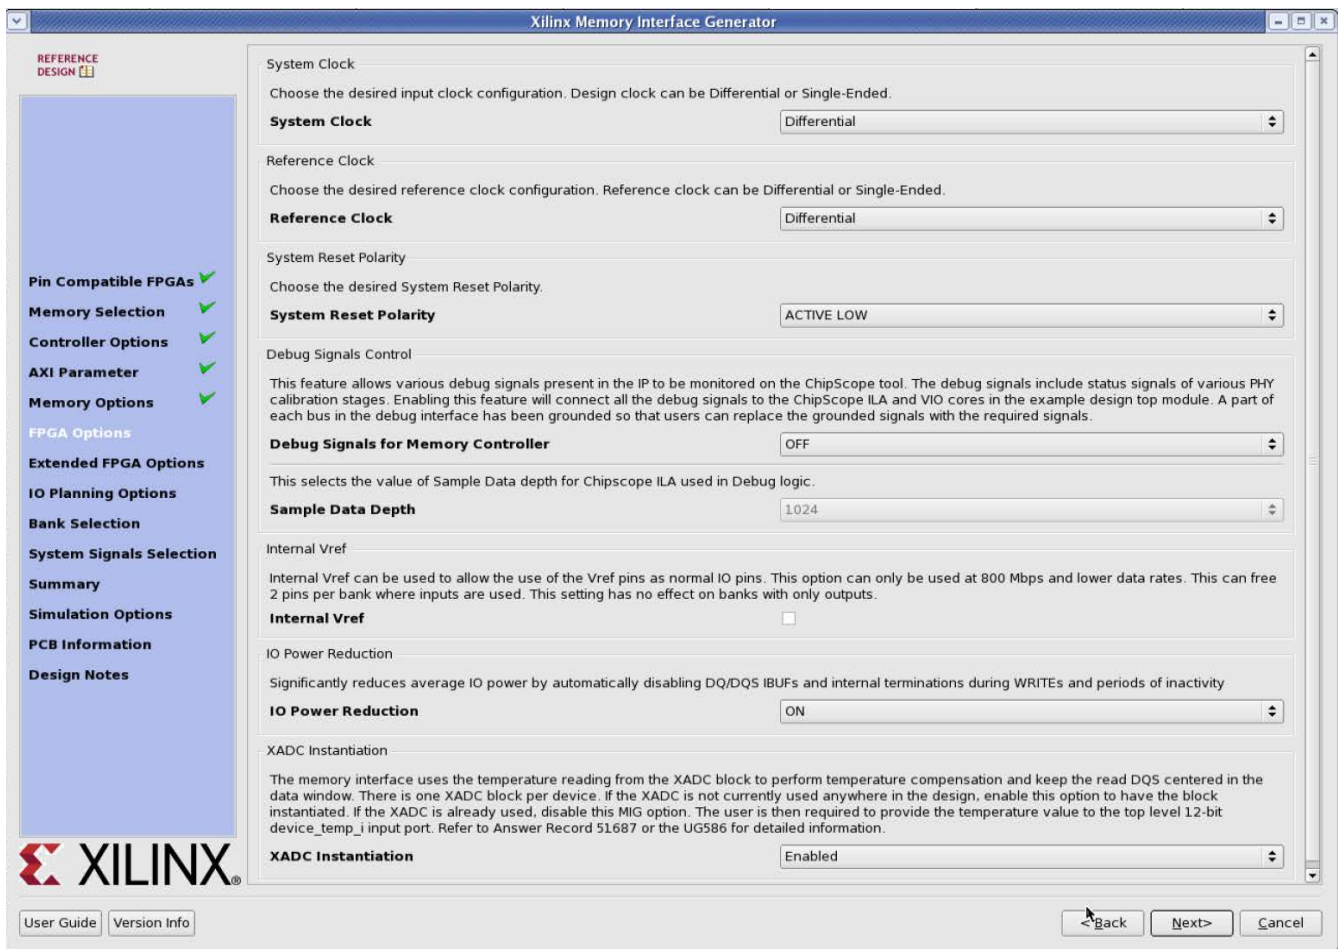

Figure 1-22: FPGA Options
Figure 1-22 shows the FPGA Options page.
- **sys\_clk** – This is the system clock input for the memory interface and is typically connected to a low-jitter external clock source. Either a single input or a differential pair can be selected based on the System Clock selection in the FPGA Options page (Figure 1-22). The **sys\_clk** input must be in the same column as the memory interface. If this pin is connected in the same banks as the memory interface, the MIG tool selects an I/O standard compatible with the interface, such as DIFF\_SSTL15 or SSTL15. If **sys\_clk** is not connected in a memory interface bank, the MIG tool selects an appropriate standard such as LVCMOS18 or LVDS. The XDC can be modified as desired after generation.
- **clk\_ref** – This is the reference frequency input for the IDELAY control. The clk\_ref input can be generated internally or connected to an external source. A single input or a differential pair can be selected based on the System Clock selection in the FPGA Options page (Figure 1-22). The I/O standard is selected in a similar way as sys\_clk.
- **sys\_rst** – This is the system reset input that can be generated internally or driven from a pin. The MIG tool selects an appropriate I/O standard for the input such as LVCMOS18 and LVCMOS25 for HP and HR banks, respectively. Default polarity of sys\_rst pin is active-Low. Polarity of sys\_rst pin varies based on "System Reset Polarity" option chosen in **FPGA Options** page (Figure 1-22).